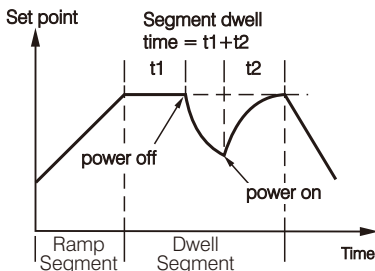
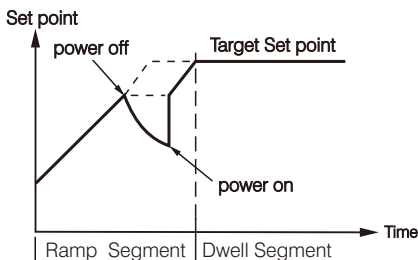

Figure 4.3 Recovery from profile at dwell segment
Figure 4.4 Recovery from profile at ramp segment
If power is lost and then restored, while a profile is running, the behavior of the profile is determined by the setting of the parameter "PFR" power fail recovery in profile configuration. This can have one of 4 settings - *cont*, *pu*, *sp* and *off*. If *cont* is selected, then when power is restored the profile continues from where it was interrupted when power was lost. The parameters such as set point value (SV), time remaining (TIME) and cycle remaining (CYCL) will be restored to their power-down values. For application that need to bring the process value to the set point value as soon as possible, this is the best choice. The two diagrams below illustrate the respective responses, Fig. 4.3 if power fails during a dwell segment and Fig. 4.4 if it fails during a ramp segment.